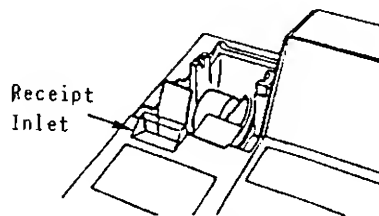

Fig. 5
5. When the paper comes out of the receipt outlet for approx. 5cm (or 2 inches), release the **RF** key (Fig. 5).